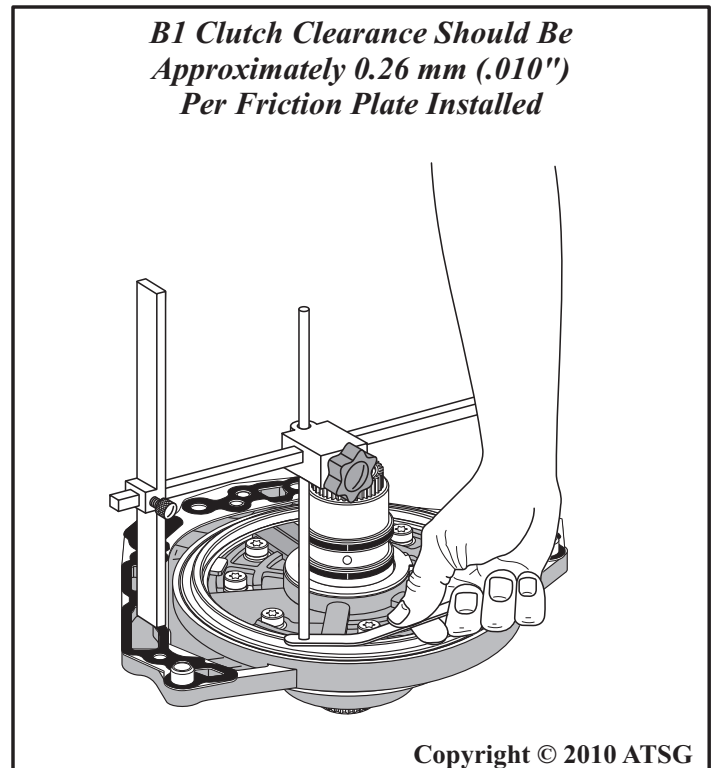

Figure 184
43. Now turn the "H" gage over and set it on the completed oil pump assembly, *"with"* the new design gasket, as shown in Figure 184.